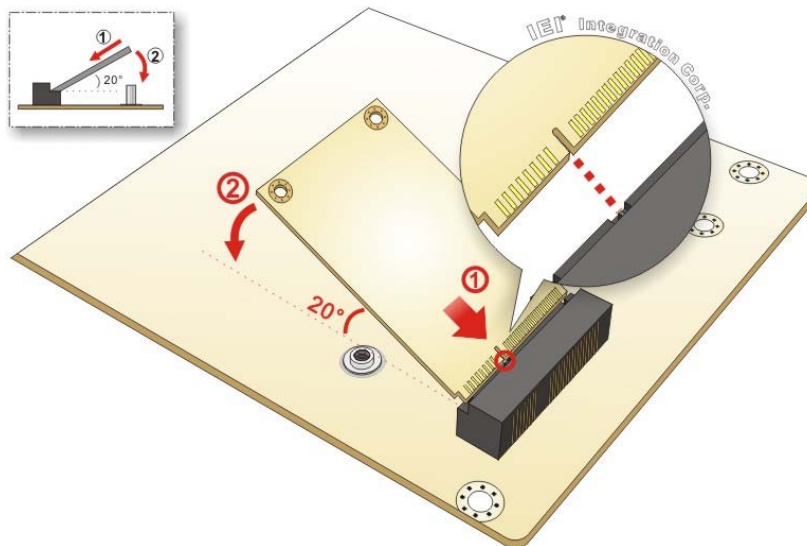

Figure 4-6: Inserting the Full-size PCIe Mini Card into the Slot at an Angle
Step 3: Insert into the socket at an angle. Line up the notch on the card with the notch on the slot. Slide the PCIe Mini card into the socket at an angle of about 20° (Figure 4-6).